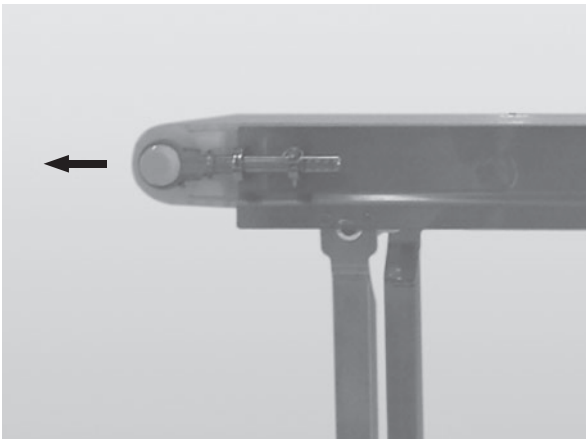

Figure 67
- Continue extending the tension end until the belt is sufficiently tight (**Figure 67**).